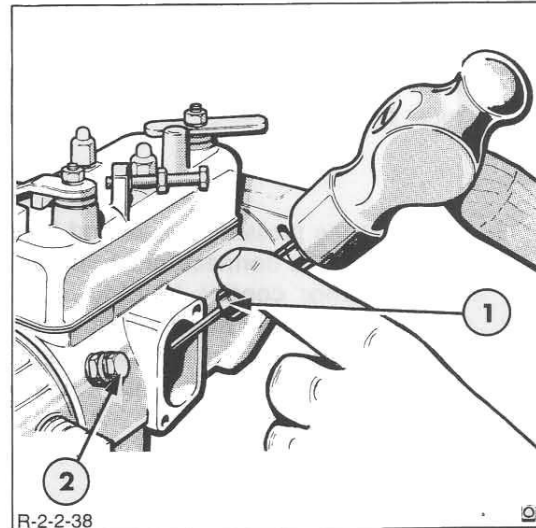

Figure 42
- (iii) Enter the hooked end of tool No. 7144-875 through the inspection aperture and engage with the notch in the periphery of the top adjusting plate, Figure 42.